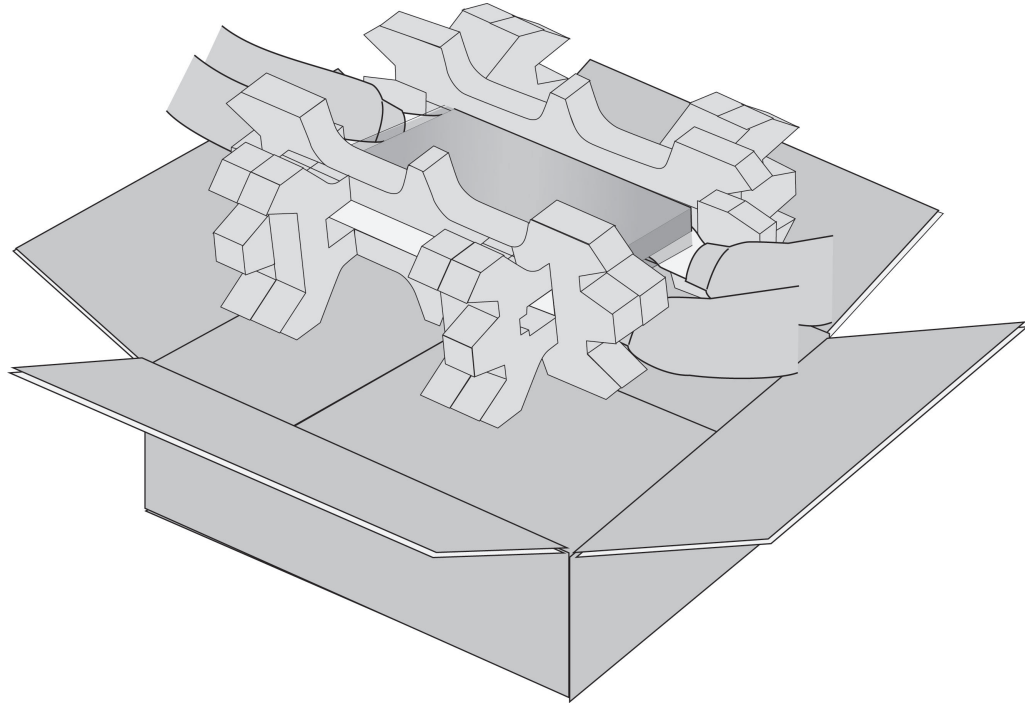

Figure 50. Lifting the Switch from the Shipping Box
3. Lift the switch from the shipping box and place it on a level, secure table. Refer to Figure 50 on page 111.